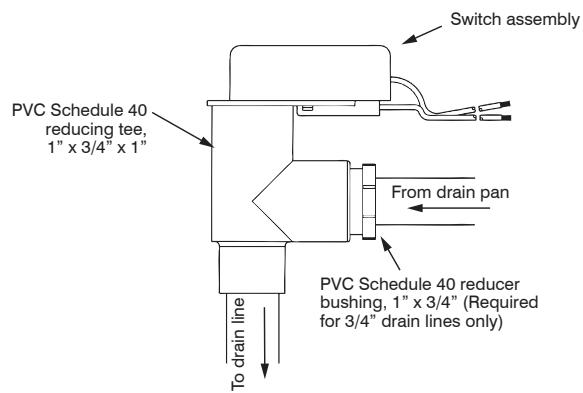

Figure 6
2. For inline installation (see Figure 2 for item number reference and Figure 6 for installation), leave out the 3/4" plug (Item 8) and assemble PVC Tee to the drain line.